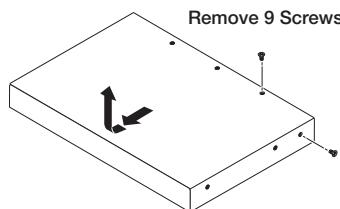

Figure 25. Opening the Switching Transmitter
2. Remove and retain the screws (nine screws, three on each side and three on top) securing the cover to the switching transmitter. Slide the cover forward slightly and lift it off the unit (see figure 25 below).